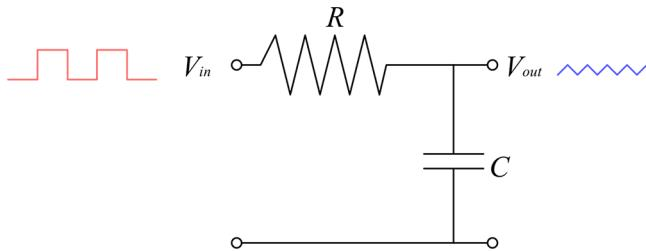

Figure 11.25: A typical low pass filter implemented with a resistor and a capacitor
An output square wave generated with the PWM technique can be filtered to generate a smoothed signal, that is an analog signal that has a reduced *peak-to-peak* voltage (V_{pp}). A *Resistor-Capacitor* (RC) *low-pass* filter (see **Figure 11.25**) can cut-off all those AC signals having a frequency higher than a given threshold. The general rule of thumb of RC low-pass filters is that the lower is the cut-off frequency the lower is the V_{pp} ³⁵. An RC low-pass filter uses an important characteristic of capacitors: the ability to block DC currents while allowing the passing of AC ones: given the R/C time constant formed by the resistor-capacitor network, the filter will short to ground those AC signal with a frequency higher than the RC constant, allowing to pass DC component of the signal and lower frequency AC voltages.